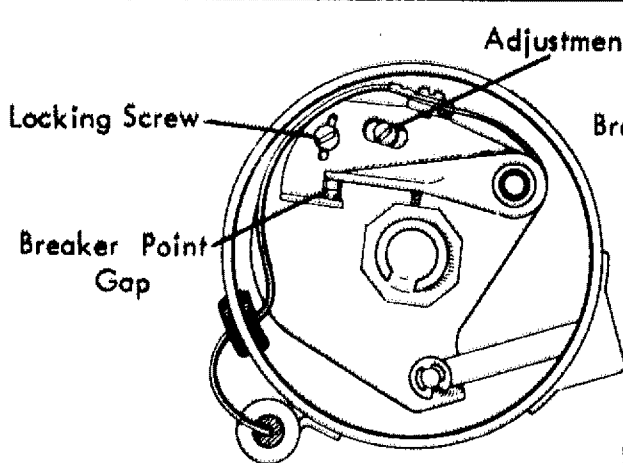
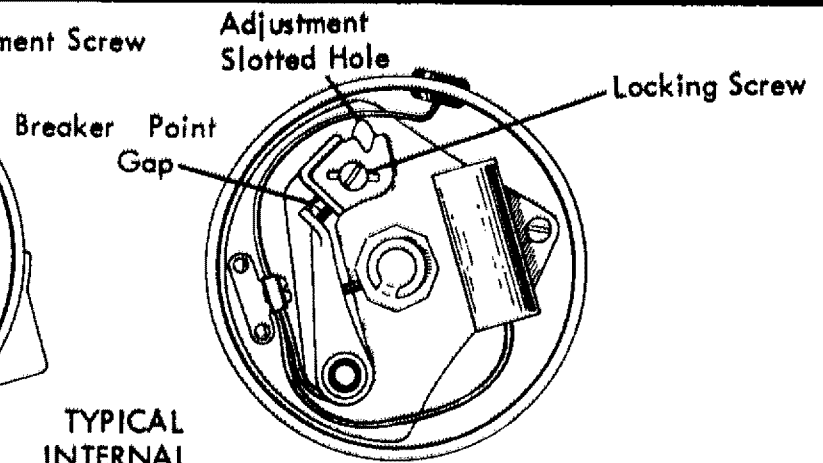

FIGURE 25
FIGURE 26
5. To adjust dwell, loosen LOCKING screw slightly and adjust point gap by turning ADJUSTMENT screw (Figure 25) or by inserting a screwdriver in slotted hole (Figure 26) and turning the tool slightly left or right to obtain the specified point dwell reading. Tighten locking screw and recheck dwell while cranking engine. Repeat procedure if necessary.